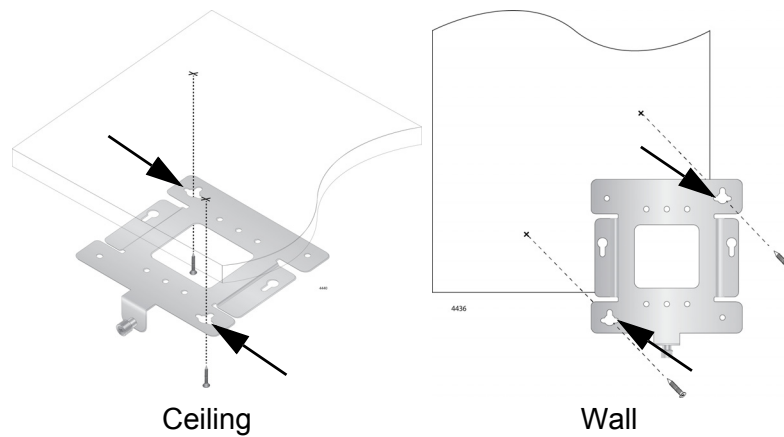

Figure 8. Marking/Pre-Drilling Holes for Key-Hole Slots
2. Using the mounting bracket as a template, mark the two key-hole slots with a pencil in the location and orientation where you want to install the access point. Refer to the arrows in Figure 8.